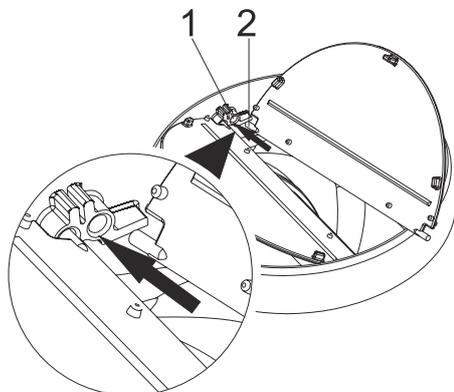

Fig. 11
- Insert the plastic pin (area no.2) on the pin socket on the motor exhaust (area no.1).Fig. 11(Fig. 11 Then bend the flap lightly to insert the other pin on the flap and insert the other pin to its socket (Fig. 11).